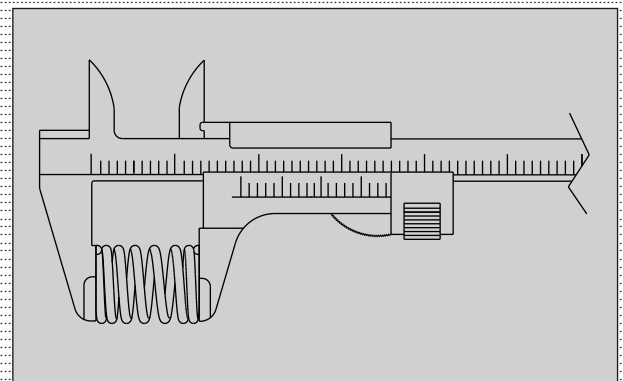

Fig. 3.18
- Measure free length of the spring clutch. If it reaches the service limit, replace with new one. (Fig. 3.18)